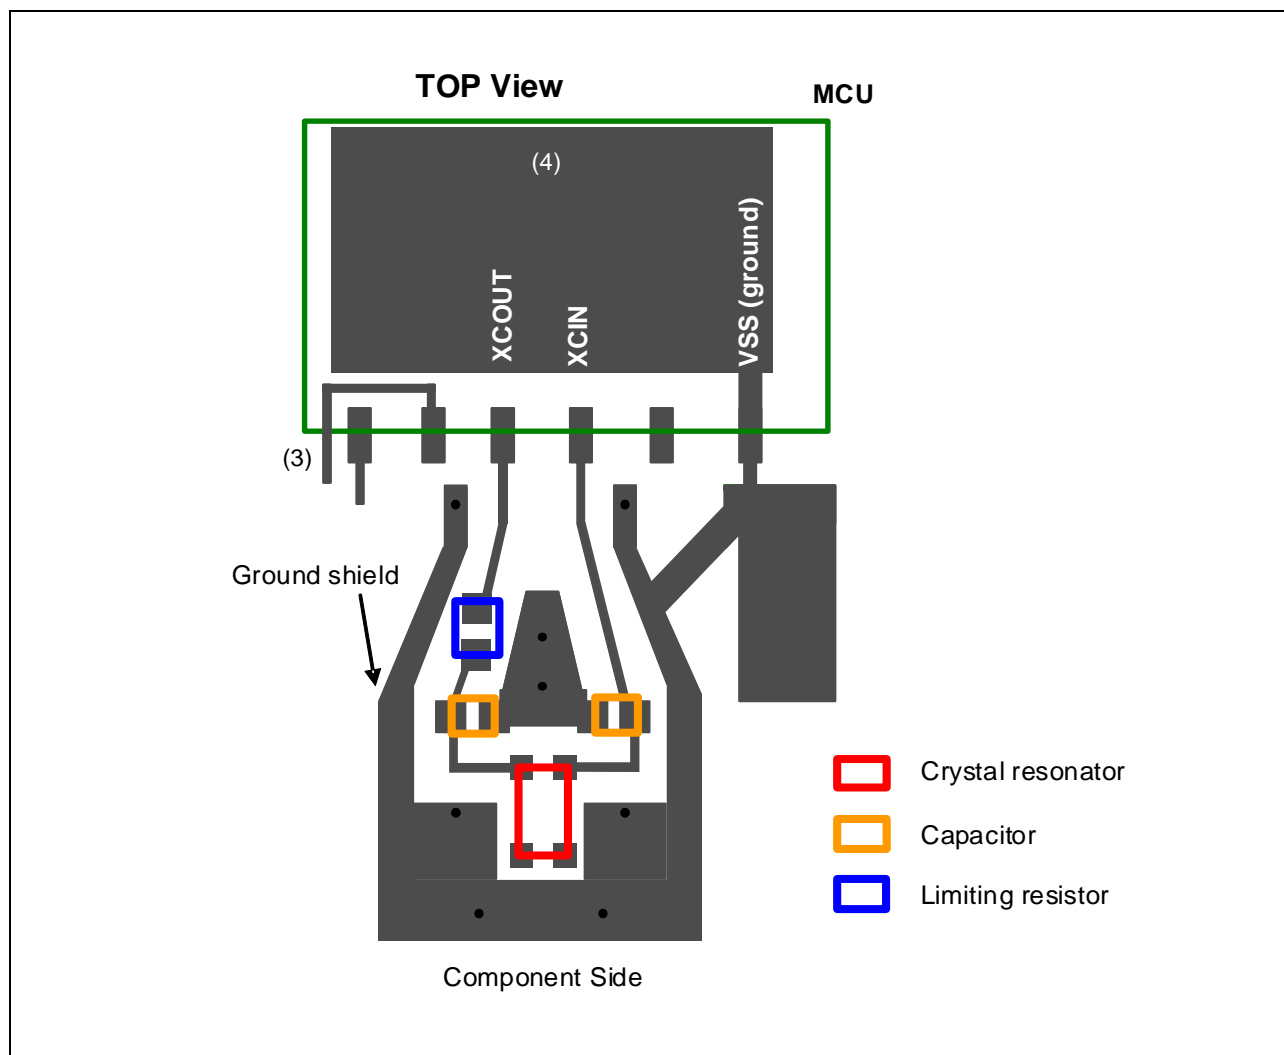

Figure 3.11 Trace Example for Other Points
(1) to (4) below describe other points, and Figure 3.11 shows a trace example.